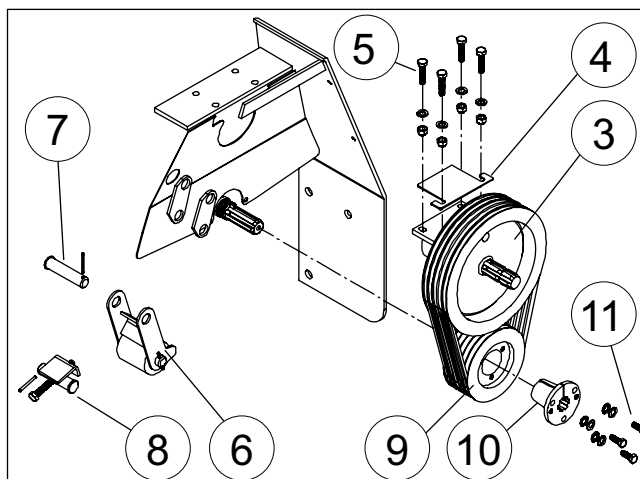
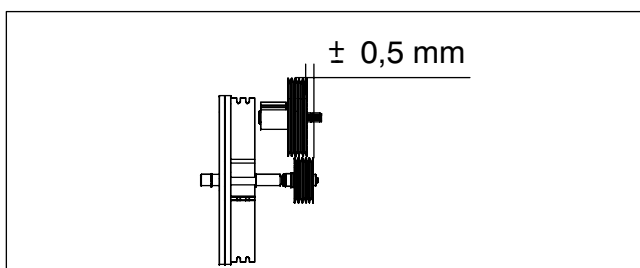

Fig. 11. Installing the 160T belt transmission
Fig. 12. Belt alignment
2. Attach the upper belt pulley assembly (3) and the regulator plate (4) to the chipper with the M12 bolts (5). Tighten the bolts lightly so that the bearing housing can be moved. See Figure 11.
3. Install the belt tightener (6) with the pin (7) and the adjusting assembly with the pin with hole (8). Secure the pins with cotter pins.
5. Push the lower belt pulley (9) onto the splined shaft without the tightening cone (10) while placing the belts into the grooves of the lower belt pulley.
6. Install the lower belt pulley tightening cone, NordLock lock washer pairs, and tightening cone bolts (M12) (11). Tighten lightly so that the lower belt pulley can be moved on the splined shaft.
7. Check the alignment of the belts - see Figure 12. Adjust the alignment of the belt pulleys by moving the upper belt pulley bearing housing and the lower belt pulley.